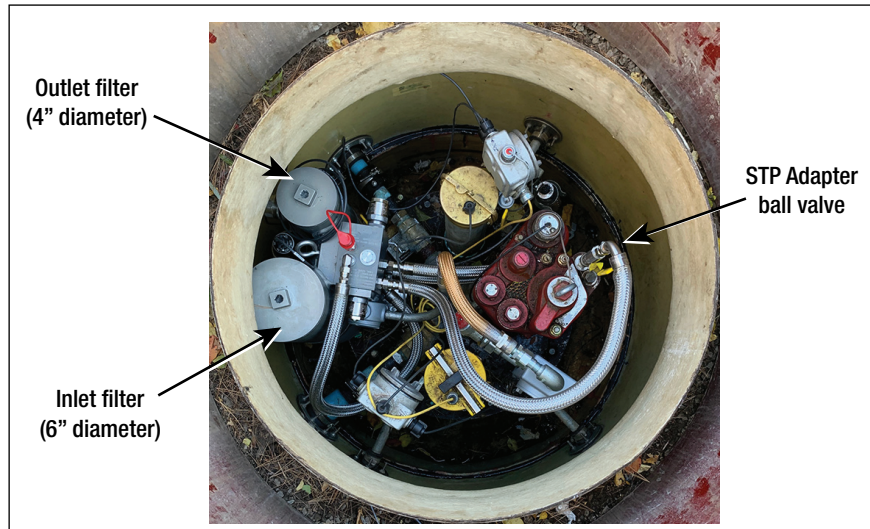

Figure 3. HydrX Sump
1. Close the STP Adapter ball valve to isolate the Fuel Conditioner unit from the pump. If coils are to be replaced, disconnect field wiring from coil leads and tag for re-connection. (see Figure 3).